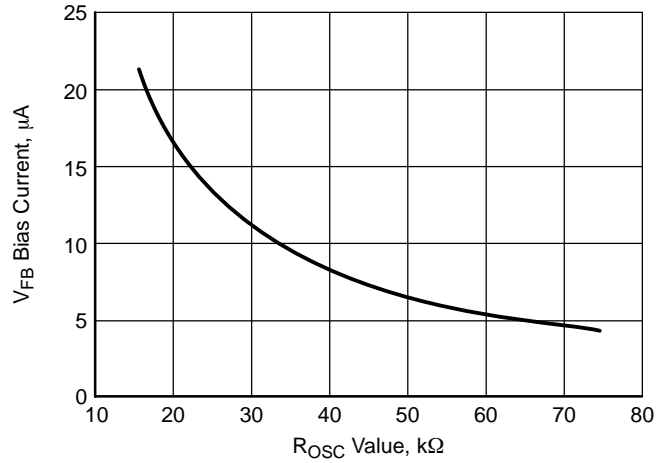

Figure 5. VFB Bias Current vs. Rosc Value
3. The  $V_{\text{FB}}$  Bias Current changes with the value of  $R_{\text{OSC}}$  per Figure 5.